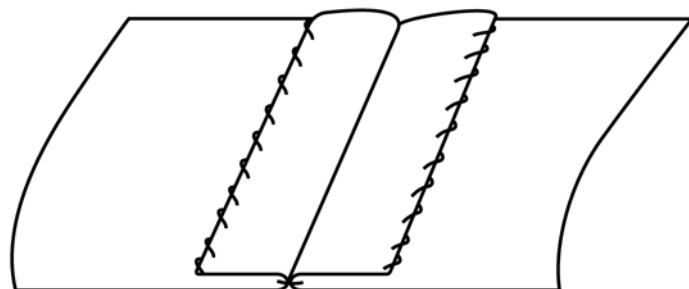

FIG. 7 Hand-Overcast Seam Finish from Back Side of Fabric
**hand-overcast seam finish, *n***—*in home sewing*, a seam finish in which hand stitches are sewn such that the thread wraps around the cut edges of each seam allowance. (See Fig. 7.)